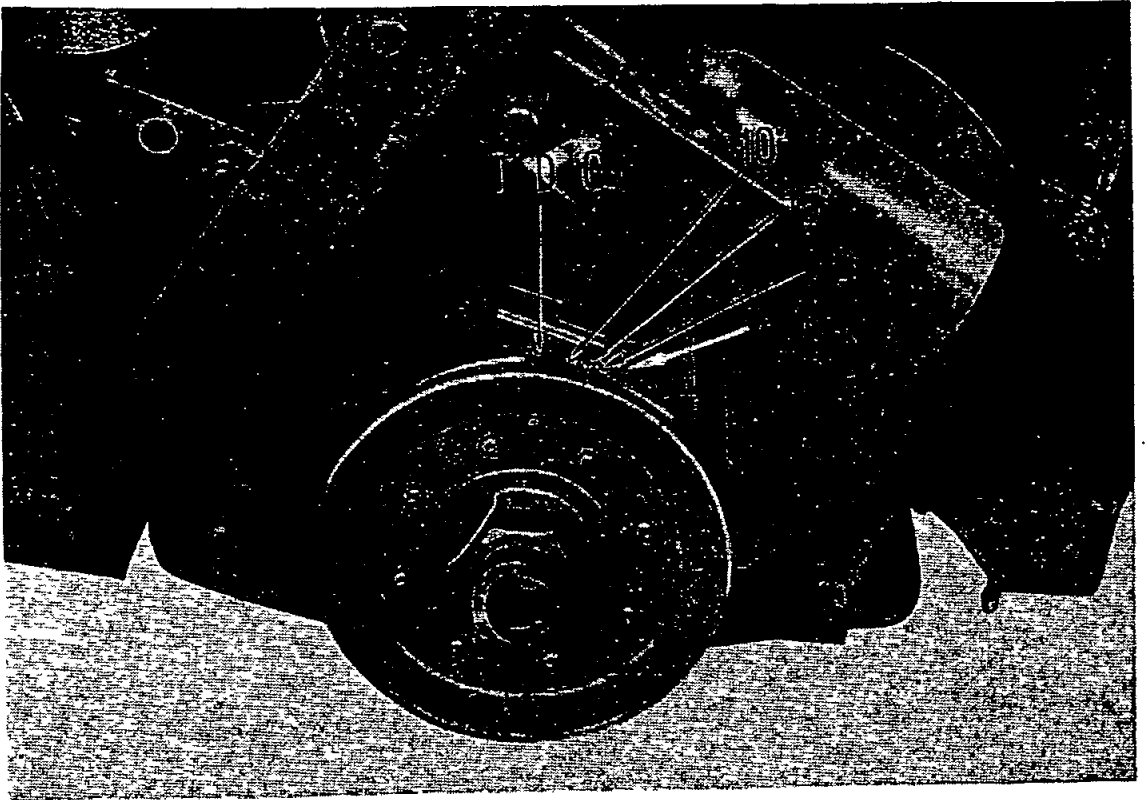

Fig. 3 Checking the Ignition Timing
The ignition timing is adjusted to 10 degrees before top dead center with the engine stopped as shown in Fig. 3. With this adjustment, the automatic timing advancer of the distributor advances the ignition timing even further at the time the engine starts to rotate, and the timing is maintained constantly at valves suitable for the rotational speed.
2. Turn the crankshaft gradually until the top dead center mark (Fig. 3) on the pulley periphery coincides with the mark for 10 deg. before top dead center on the timing gear cover as the crankshaft approaches its positions somewhat before that corresponding to the end of the compression stroke of the No. 1 piston. Stop the crankshaft in this position. The compression stroke of the No. 1 piston can be determined if the spark plug of the No. 1 cylinder is removed, the hole plugged with a finger, and the crankshaft turned. With the crankshaft in the previously-mentioned position, the No. 1 piston is in its position of 10 deg. before top dead center of compression.